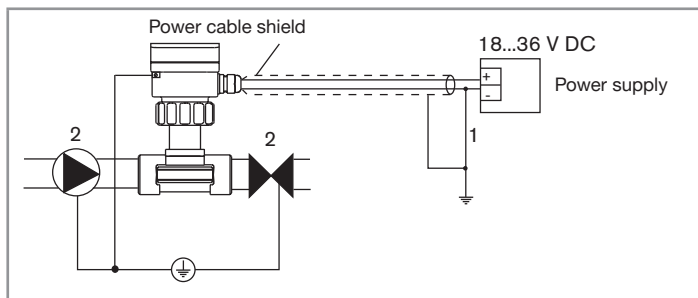

Fig. 15: Earthing the device
- Connect the negative power supply terminal to the earth to suppress the effects of common mode currents. If this connection cannot be made directly, a 100 nF/50 V capacitor can be connected between the negative power supply terminal and the earth (marked 1, Fig. 15).
- connect to the same earth the different metallic instruments (valve, pump...) located near the device (marks 2, Fig. 15).
- insert the metal parts (not provided) in the plastic pipes, upstream and downstream of the device (marked 2, Fig. 15).
- connect the metal parts to the same earth (Fig. 15).